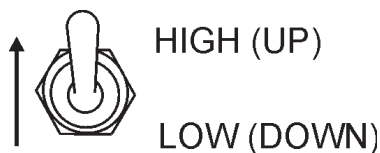

Figure 43. Engine Speed Switch (High)
8. Once the engine is warm and the engine is running properly, set the engine speed switch to "**HIGH**" (Figure 43).